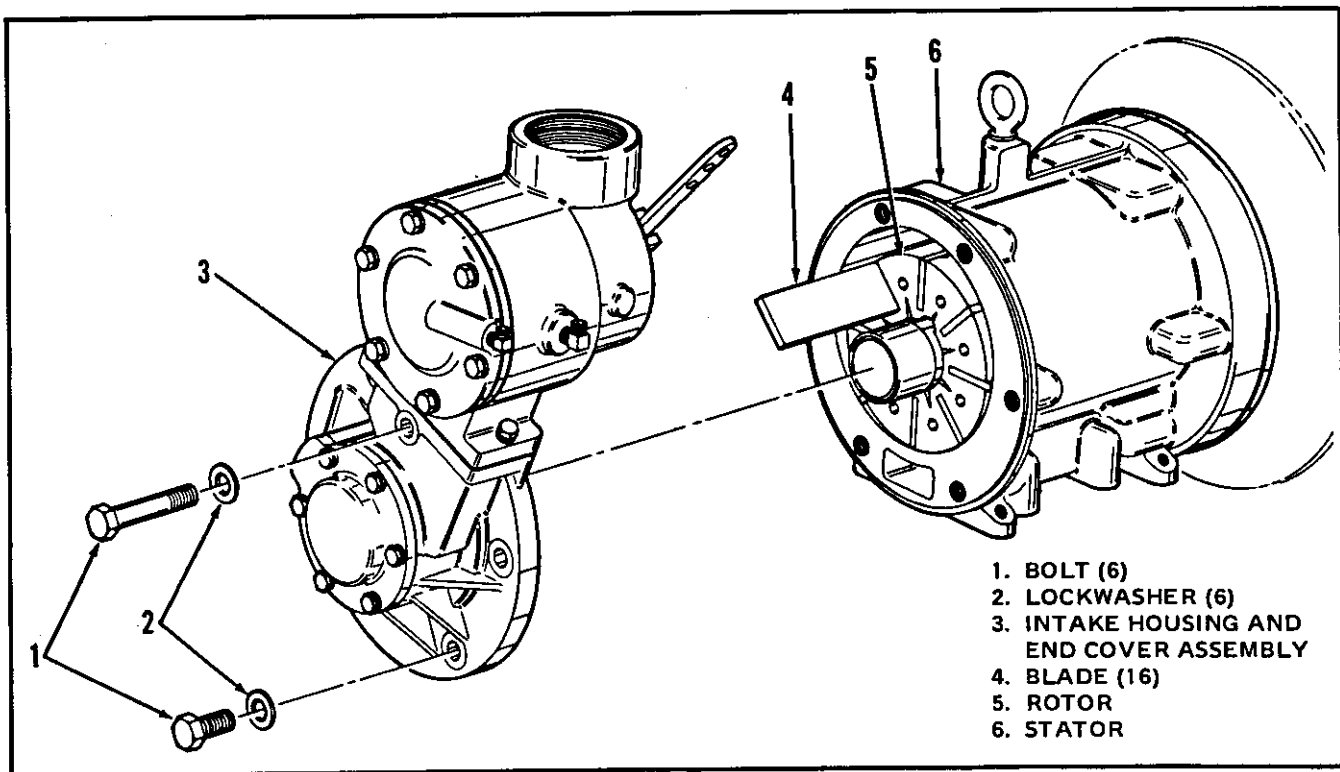
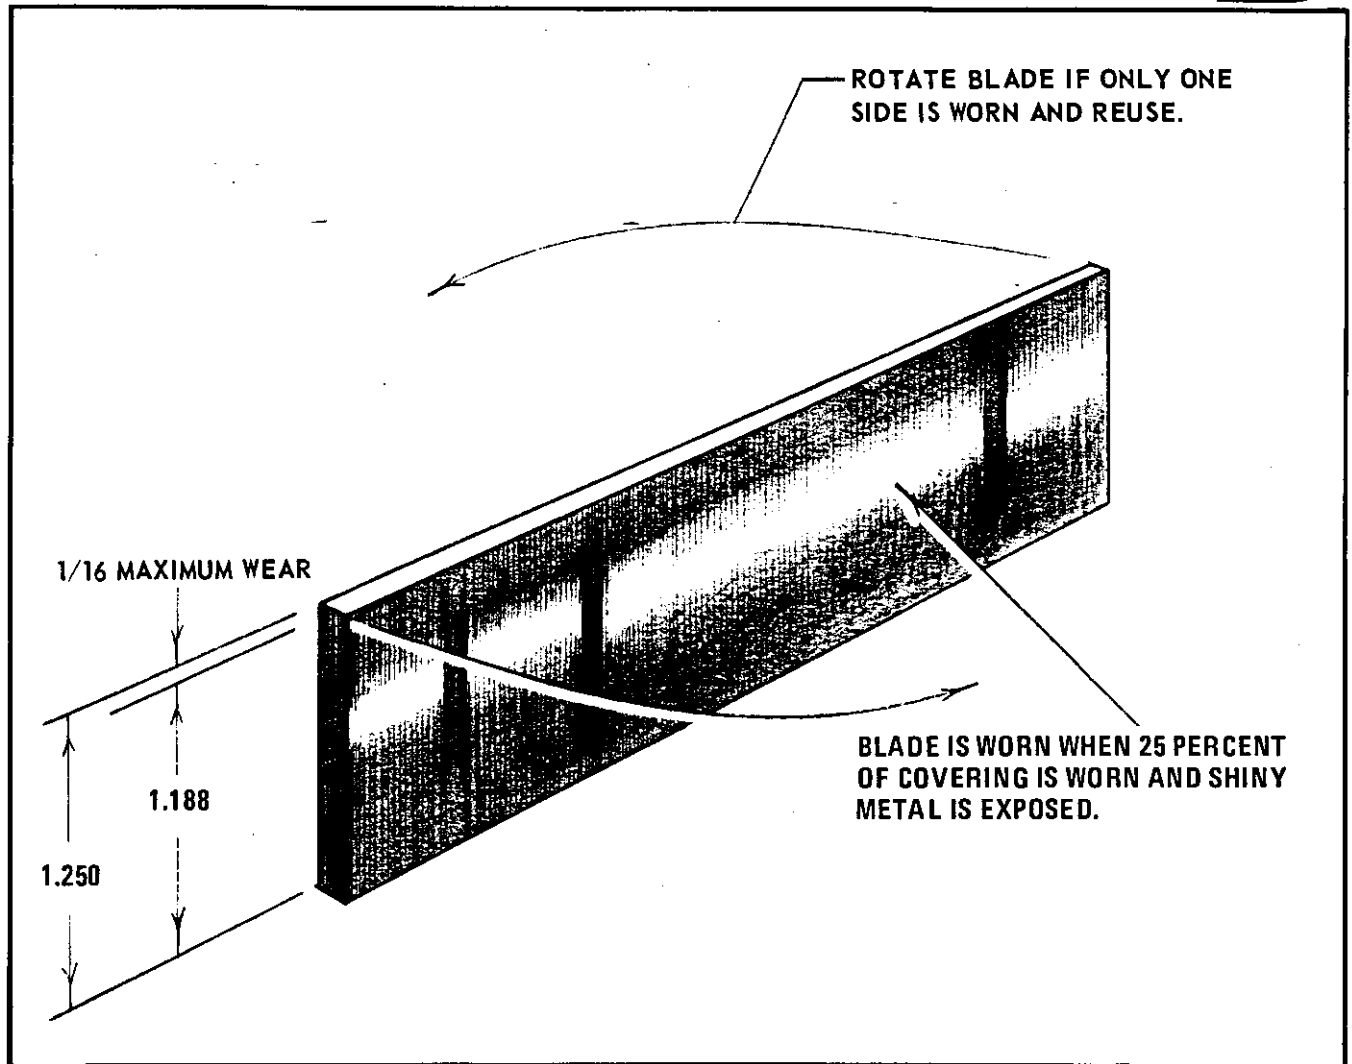

Figure 3-3. Compressor Inspection
Figure 3-4. Rotor Blade Inspection
3-6. AIR COMPRESSOR INSPECTION (Fig. 3-3). Periodic inspection of the compressor assembly rotor blades (4) every 4000 hours of operation will ensure that unit maintains a high degree of efficient performance without the need for a major overhaul.
b. Remove end cover (3, Fig. 3-3) with intake control and bearing cover attached.
c. Remove blades (4, Fig. 3-3) and inspect for evidence of excessive wear. See figure 3-4. Blades are excessively worn when 25 percent of covering is removed exposing shiny metal. Blades worn on one side only may be turned around and reinstalled. Replace blades when 1/16-inch in height is lost due to wear. Replace blades when scored, chipped or both sides are worn.
For blade and rotor inspection, it is only necessary to remove non-drive end cover (3, figure 3-3) with intake control and bearing cover attached. Refer to paragraph 3-6.
- c. Remove minor nicks or scratches from machined surfaces of rotor (5, Fig. 3-3) and stator (6, Fig. 3-3) with a fine honing stone or emery cloth. If excessive scoring or chipping is evident replace damaged parts.